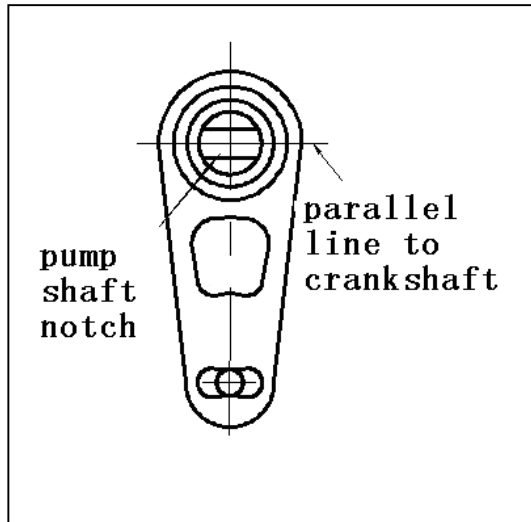

Fig.3-10 The position of groove in oil pump shaft
- C.** Main points for installing piston and connecting rod assembly. There are fitting marks on piston head and connecting rod shank. Sure that the mark s are in the same direction (refer to fig.3-10). Be careful to avoid mistakes.
- D.** When installing piston and connecting rod assembly into cylinders. The marked surfaces of the connecting rod and piston must face the front of engine (fig.3-10).